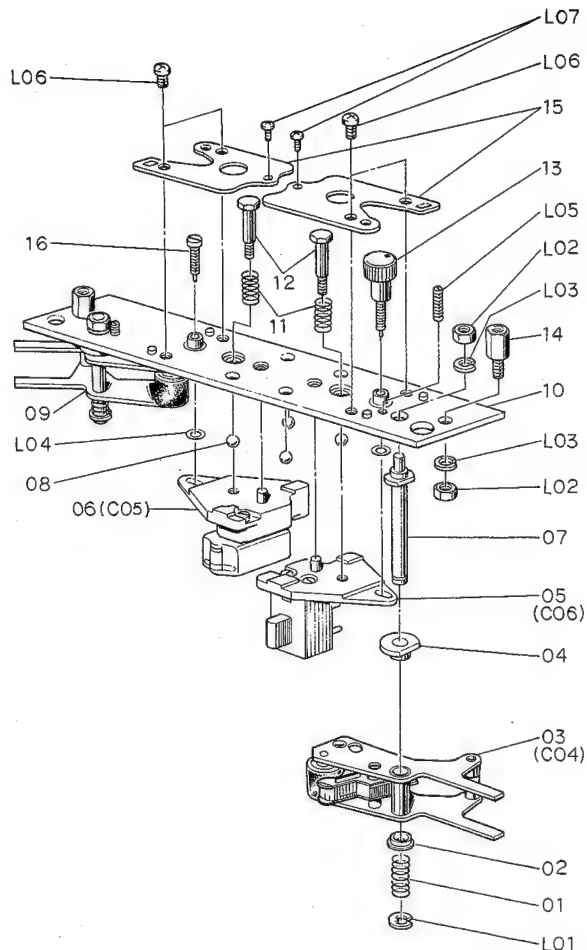
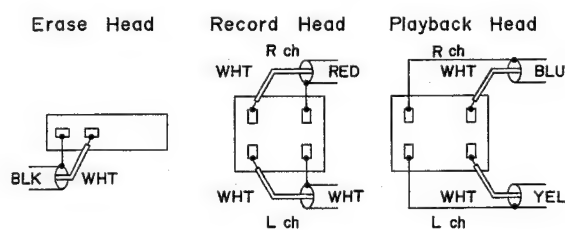

Fig. 5.10 Head Replacement
Fig. 5.11 Wiring of Heads (Rear View)
- (1) Referring to Fig. 5.10, unfasten screws and springs (12,11) then remove record head (05) and playback head (06) with care not to lose washers or steel balls (L04,08).
- (2) Disassemble E-ring, spring and collar (L01,01,02), then remove supply pressure roller arm ass'y (03).
- (3) Remove erase head from supply pressure roller arm ass'y (03).
- (4) Referring to Fig. 5.11, disconnect signal wires then replace each head.
- (5) Fasten screws (12 in Fig. 5.10) of playback and record heads, insuring to keep correct direction, vertically against to the cassette tape.
- (6) Fasten a screw fixing an erase head to the chassis of the supply pressure roller arm ass'y without any dust, and pushing erase head toward the pressure roller insuring to keep more than 0.1 mm space. Then apply a drip of lock tight paint to the screw. Check to insure signal wires are not in contact with the chassis.